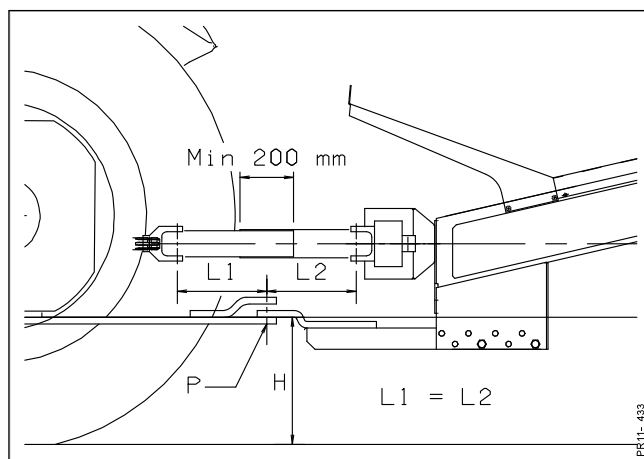

Fig. 2-12
**Fig. 2-12** The height of the drawing eye **H** must be set in such a way that the PTO shaft is horizontal. The height may be altered by moving or turning the drawbar bracket. In order to ensure the longest possible lifetime of the PTO shaft in the case of the standard PTO shaft without a wide-angle, the length **L1** must be equal to the length **L2**, i.e. the fulcrum **P** for the drawbar to be as close as possible beneath the centre point between the intersections. The drawbar bracket on the forage harvester may be moved back or forward in increments of 25 mm.